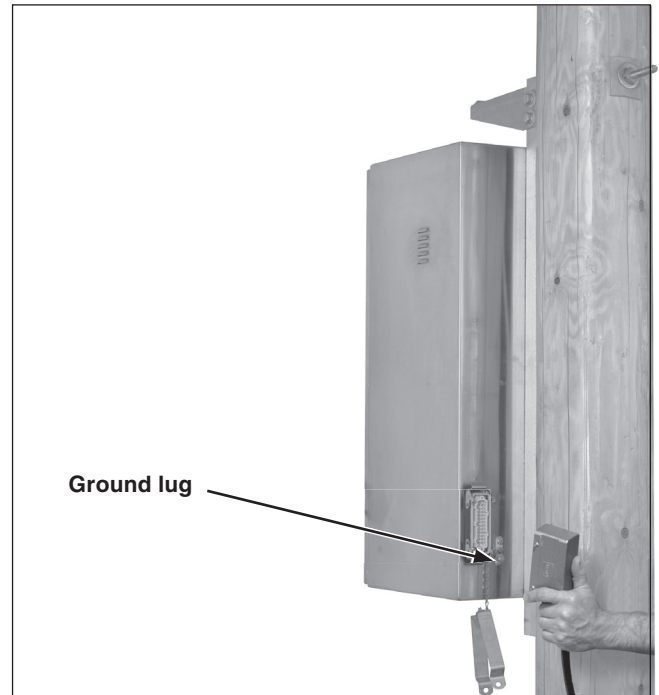

Figure 10. Ground the enclosure.
STEP 15. Ground the enclosure by solidly connecting one number 6 AWG wire (or wires of equivalent cross-sectional area) to the ground lug on the back of the enclosure. Solidly connect the enclosure ground wire to the switch ground wire(s). See Figure 10.